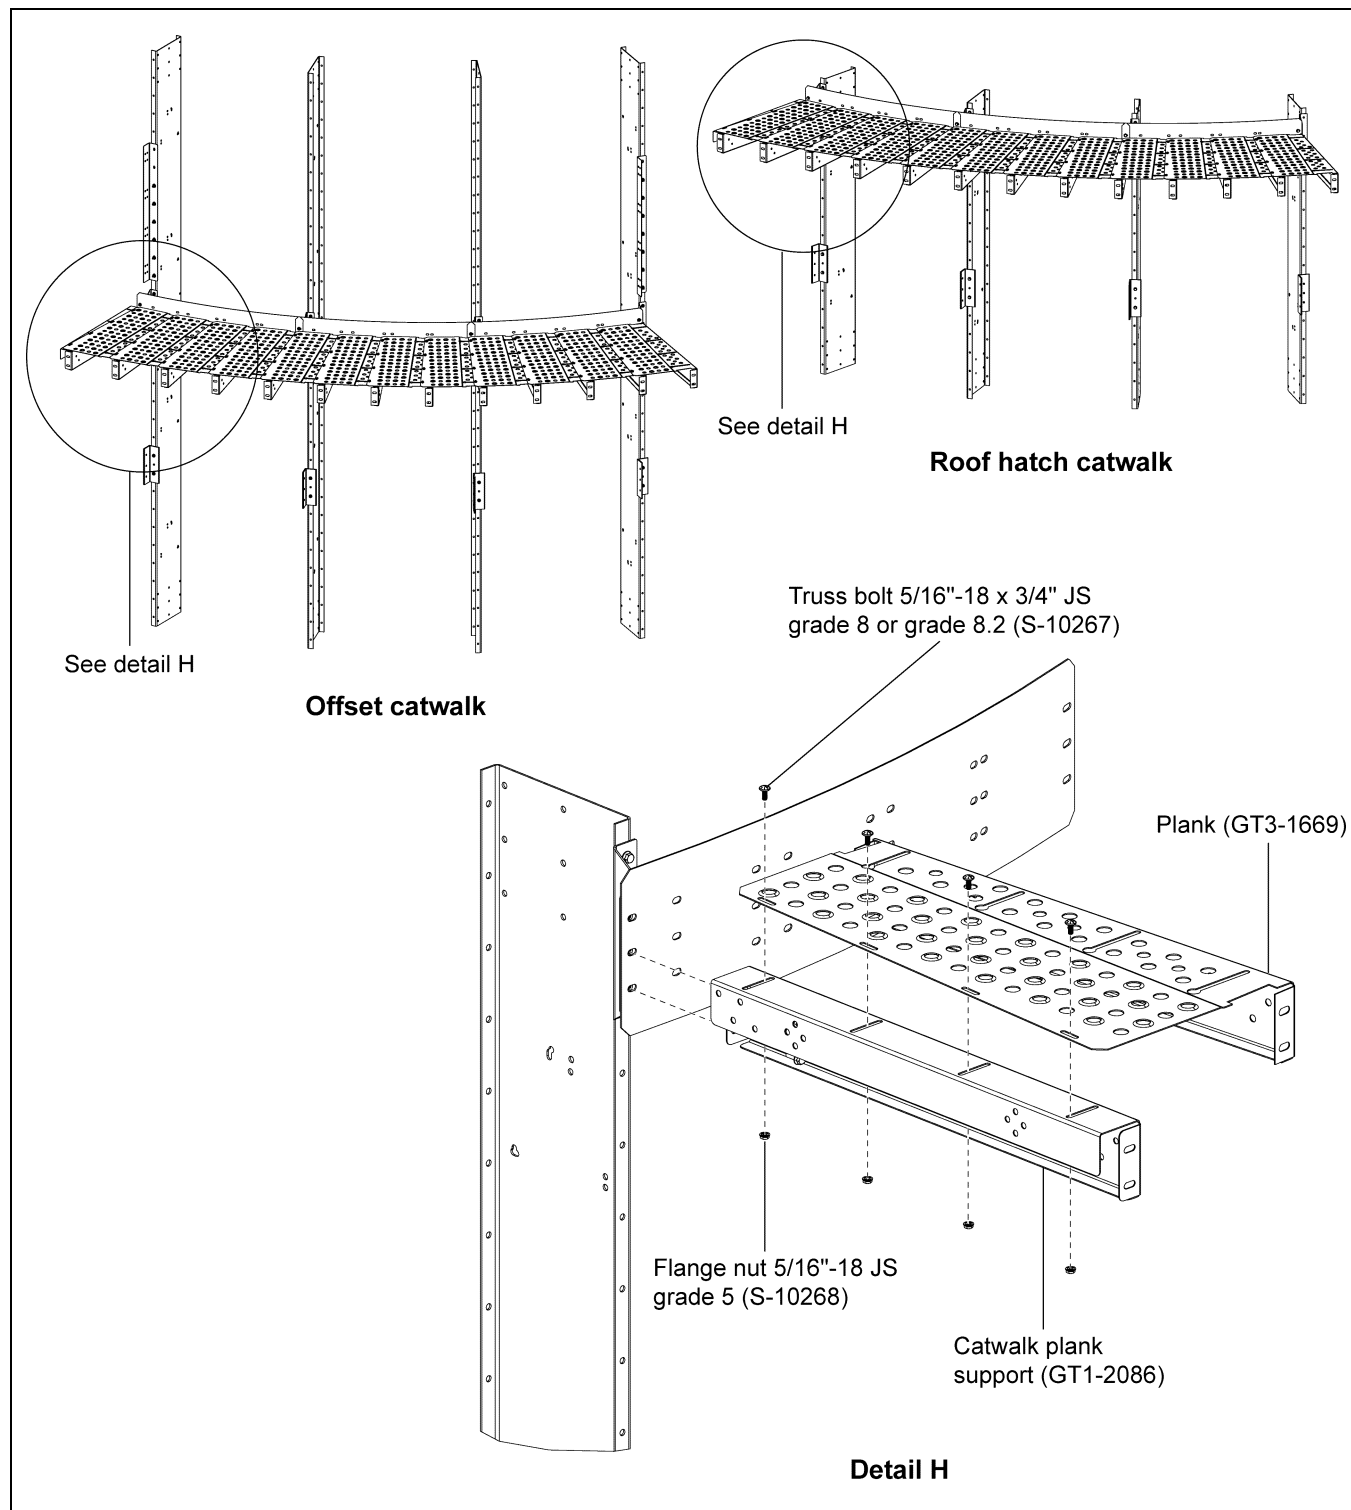

Figure 6R Plank Support (GT1-2086) Installation for Offset and Roof Hatch Catwalks
1. Once the planks are installed, install the plank support (GT1-2086) at the catwalk closing end using 5/16"-18 x 3/4" JS grade 8 or grade 8.2 bolts (S-10267) and 5/16"-18 JS grade 5 nuts (S-10268) and to the toe board (GT1-2657) using 3/8"-16 x 1" JS grade 8 or grade 8.2 bolts (S-7485) and 3/8"-16 ZN grade 5 nuts (S-968). (See Figure 6R.)